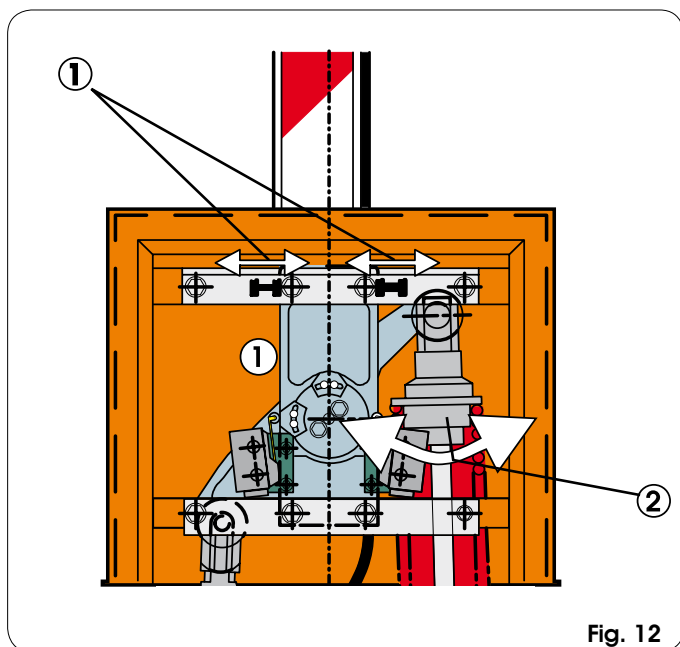

Fig. 12
- 5) Adjust the opening and closing travel limit mechanical stops as per fig.12 ①, and verify beam balancing following the instructions in paragraph 4.4.
- 2) If the barrier tends to close, turn the spring pre-loading ring-nut (Fig.12 ref.②) clockwise, if it tends to open, turn it anti-clockwise.